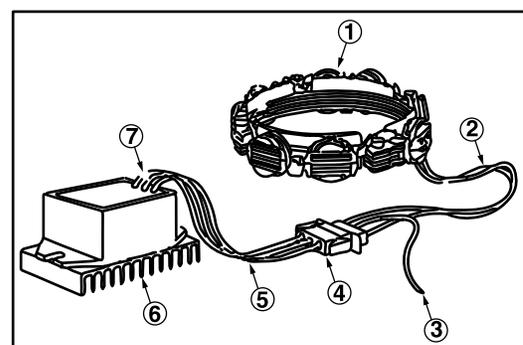

Figure 39
1. Stator assembly (1) (Figure 39)
2. Two YELLOW leads (2) from Stator.
3. RED DC output lead (3) from connector.
4. Connector (4)
5. Two YELLOW AC input leads (5)
6. Regulator-rectifier (6)
7. RED DC output lead (7) to connector